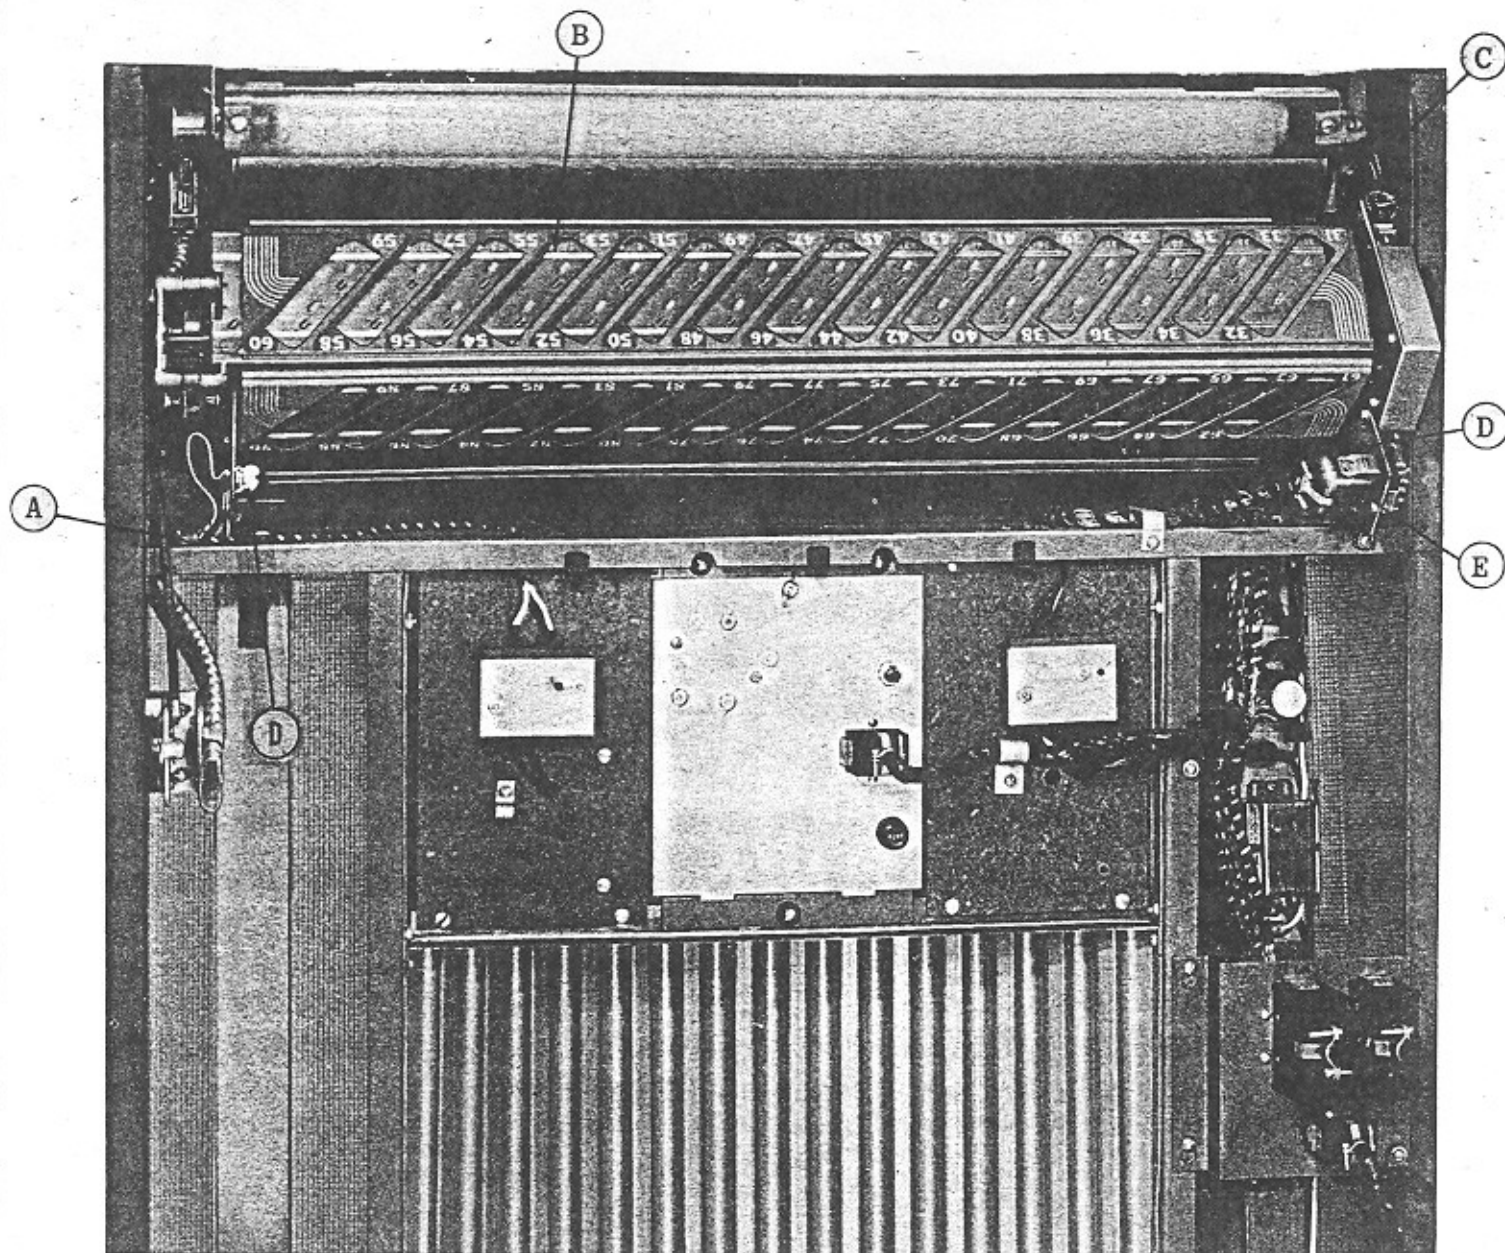

FIG. 2 PROGRAM HOLDER ASSEMBLY
The program holder assembly (B-Fig. 2) may be removed for servicing by removing the following:
1. Ground connection screw at (A) in Fig. 2.
2. Disconnect red wire at (C).
3. Pull twelve prong Jones plug out of socket at (E).
4. Remove two wing screws which mount program holder assembly at (D) and remove program holder unit.